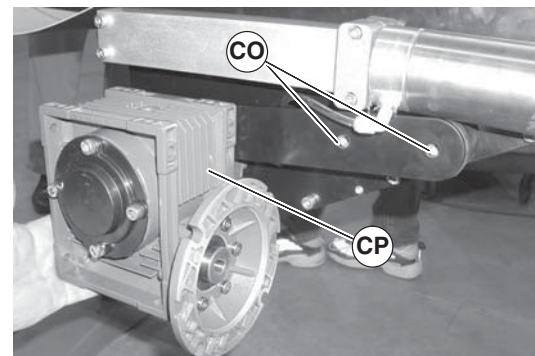

Figure 76
- Remove screws (Figure 76, item CO) and remove gearmotor (CP) (Gearhead shown with motor removed for clarity, motor can remain attached to gearhead).